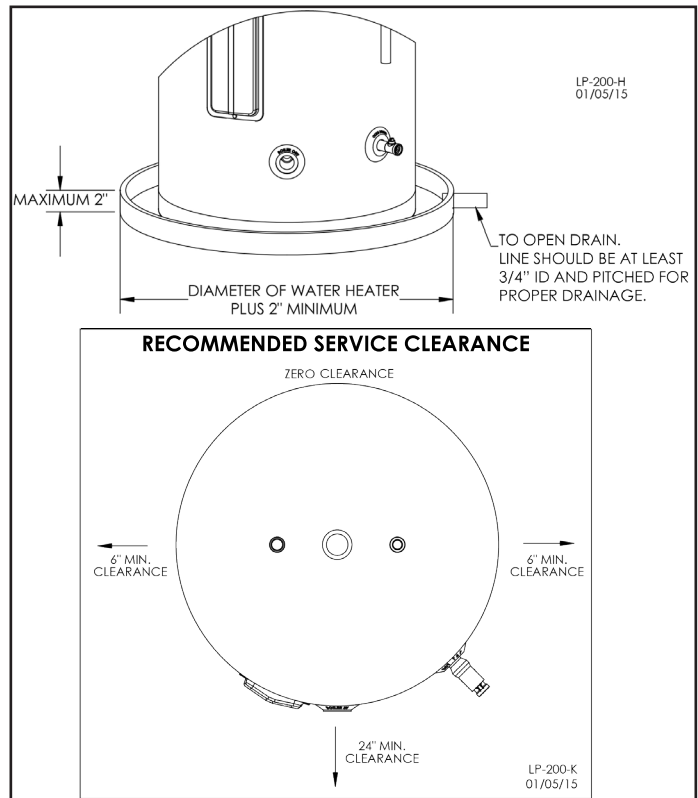

Figure 1 - Catch Pan Installation and Recommended Service Clearances
**NOTE:** If you do not provide the minimum clearances shown in Figure 1, it might not be possible to service the water heater without removing it from the space.